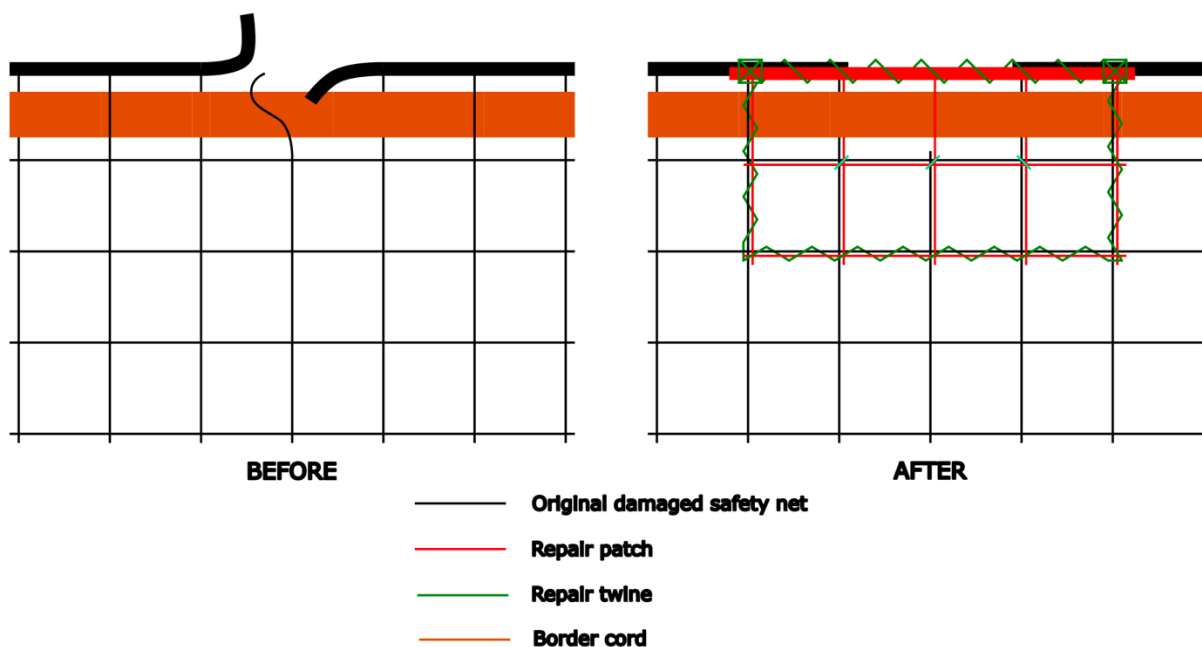

Figure 4. Selvage repair using repair twine and cable ties.
- By lacing repair twine through the perimeter meshes of the patch and using cable ties to attach the inside (only) mesh (Figure 4).